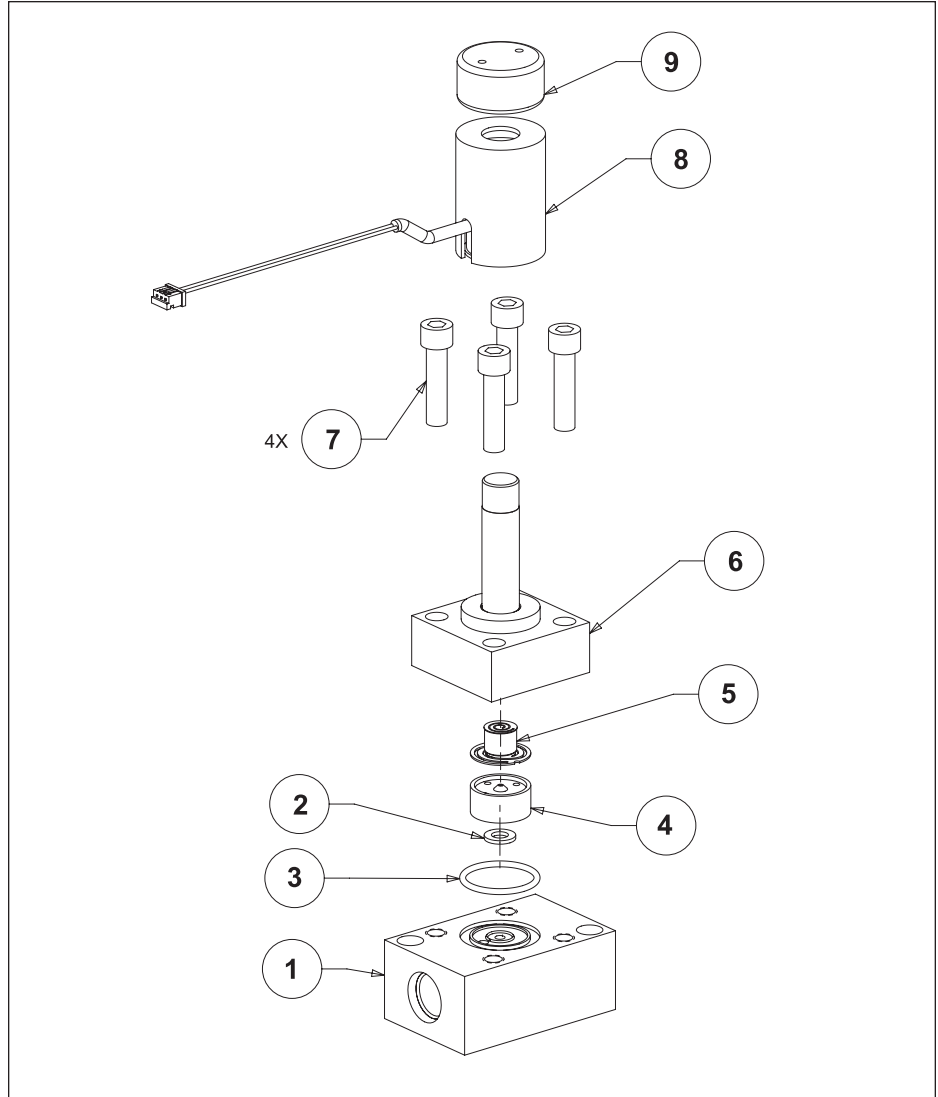
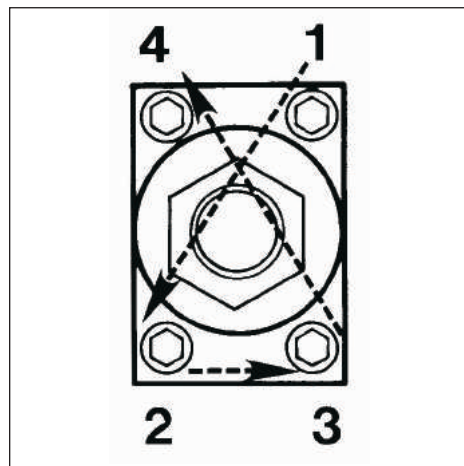

Figure 4-3 Exploded Diagram of Valve Assembly
Figure 4-4 Valve Torque Pattern
Refer to the parts list Figure 4-3.
4. Install the valve seat, item (5) in the valve cavity on top of the orifice.
5. Install O-ring, item (3) in the valve body, item (1). it is recommended that a new O-ring be used. Refer to parts list in Figure 4-3. When ordering the O-ring specify the correct compound i.e. Viton, Kalrez etc. depending upon your specific process.
6. Install the valve stem, item(6) over the valve seat, item (5) and center of the valve body, item (1).
7. Install the four valve screws, item (7) until they make light contact with the base of the valve stem, item (6). Torque the valve screws in a diagonal pattern in three increments slowly rising to a final torque value of 175 inch-pounds (20 N-m). Refer to Figure 4-4.
8. Install the valve coil, item (8).
9. Install the valve cover, item (9).
10. Install the valve nut, item(10) hand tight (snug).